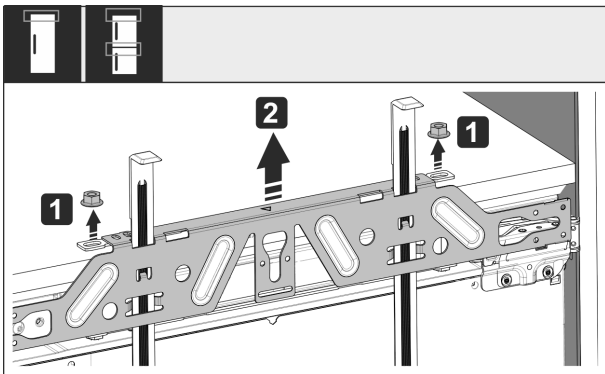

Fig. 52
- ▶ Loosen locknuts Fig. 52 (1).
- ▶ Remove crosspiece Fig. 52 (2).